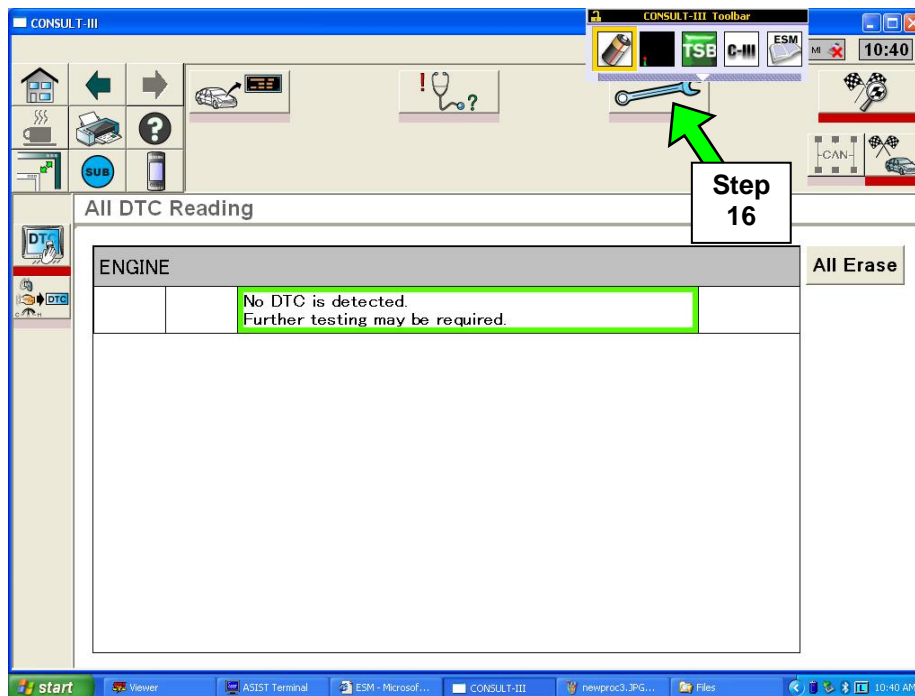

Figure 5
16. If there are no DTCs, select the “Repair” icon (see Figure 5).